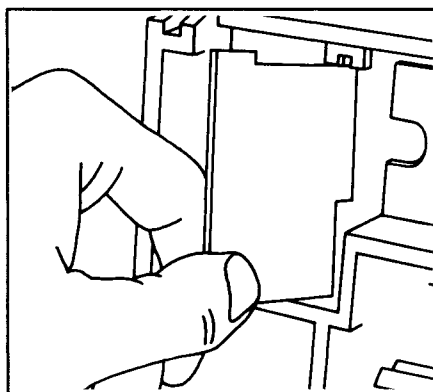

FIGURE 16.
3. Turn the 0%T calibration adjustment (shown in Figures 16 and 17) until the meter reads "zero" or the digital display reads exactly 00.0.